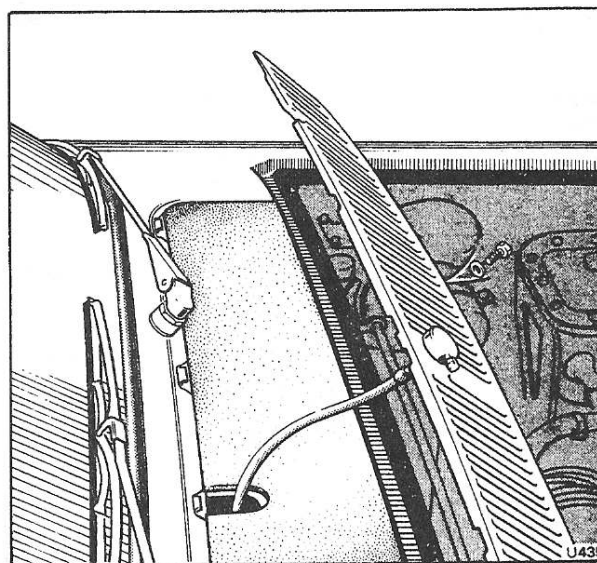

Fig. S121 Removing an air intake grille panel (Silver Shadow II, Bentley T2, Silver Wraith II and Corniche)
**Air intake grille panel — To remove (see Fig. S121)
**Air intake grille panel — To fit (see Fig. S121)